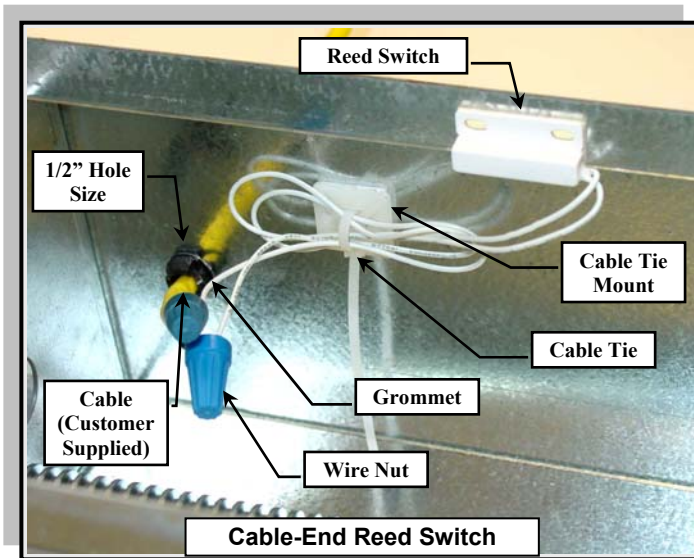

FIGURE 6
8. Line-up the reed switch with the magnet and attach the reed switch to the center of the cabinet flange. **Refer to Figure 6.**